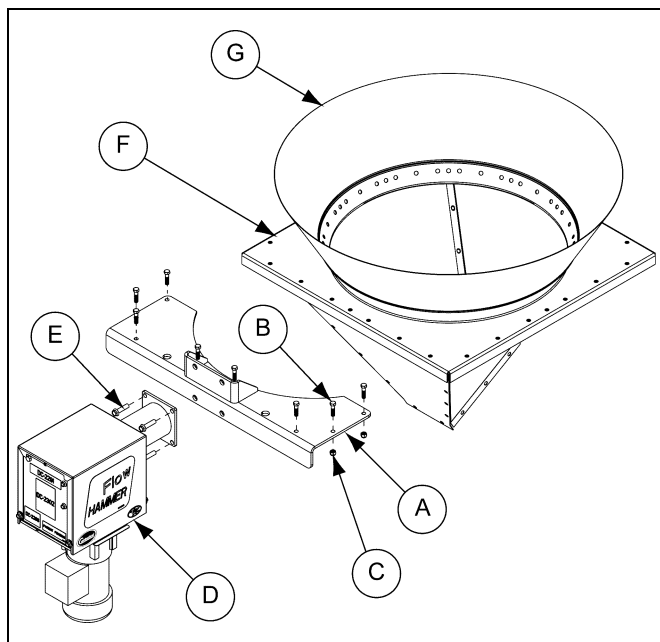

Figure 3D Exploded View
1. Remove and discard eight (8) existing bolts and nuts from the square collar as shown in Figure 3D.
3. Insert the eight (8) provided 5/16"-18 x 1-1/4" grade 8 hex bolts (B) and nylock nuts (C) in place of the eight (8) bolts and nuts removed in Step 1. (See Figure 3D.) Tighten these new bolts and nylock nuts securely.
1. Align the four (4) holes on power unit (D) with the holes in the mounting plate (A). (See Figure 3D.)
2. Fasten them together using the four (4) 3/8"-16 x 1-1/2" hex head flange bolt (E).